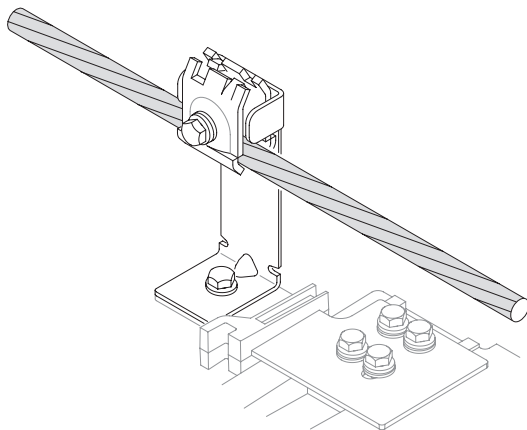

FIGURE 2—Attaching Frame To Strand.
- 5.02 Attach strand hangers to strand as indicated in Figure 2. Rest strand hanger assembly onto strand, then lift and tighten clamps on each end.